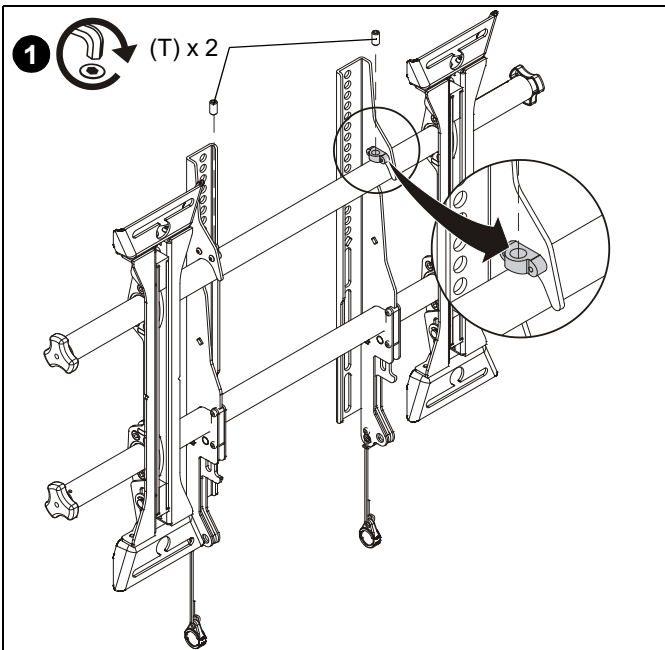

Figure 17
1. Lock screen interface brackets onto mount rails using one 3/8-16 x 3/4" set screw (T) on each interface bracket. (See Figure 17)